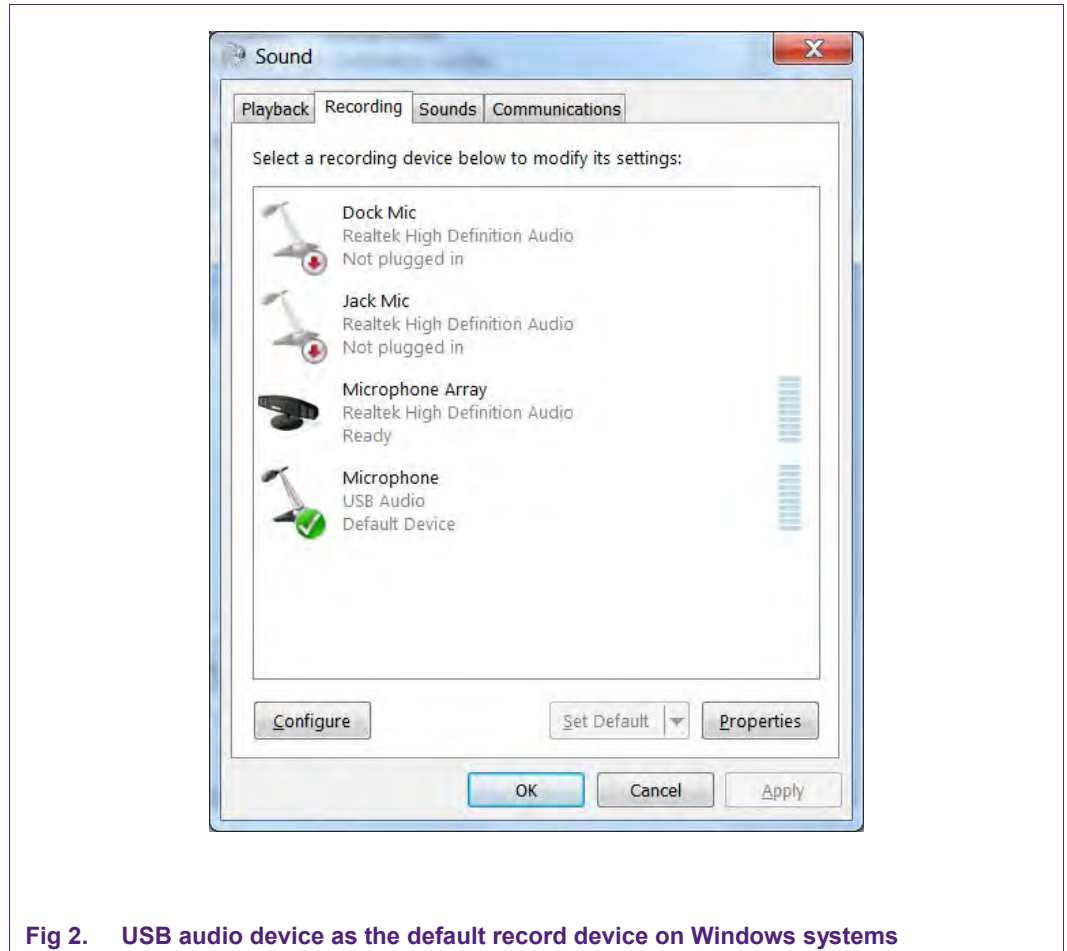

Fig 2. USB audio device as the default record device on Windows systems
- Fig 2. USB Audio device as the default record device on Windows systems 15